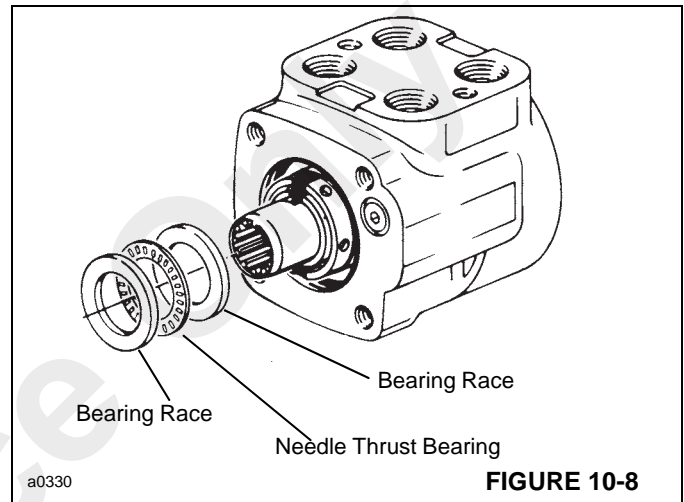

FIGURE 10-8
6. Rotate spool (12) and sleeve (9) until pin (11) is horizontal. Push the spool and sleeve assembly forward
- with your thumbs just far enough to free gland bushing (3) from the housing. Remove gland bushing (3).
7. Remove quad seal (5) from gland bushing (3).
8. Use a thin bladed screwdriver to pry dust seal (1) from gland bushing (3). Do not damage the gland bushing.
9. Remove needle bearing kit (6). The kit consists of two bearing races and a needle thrust bearing. See Figure 10-8.